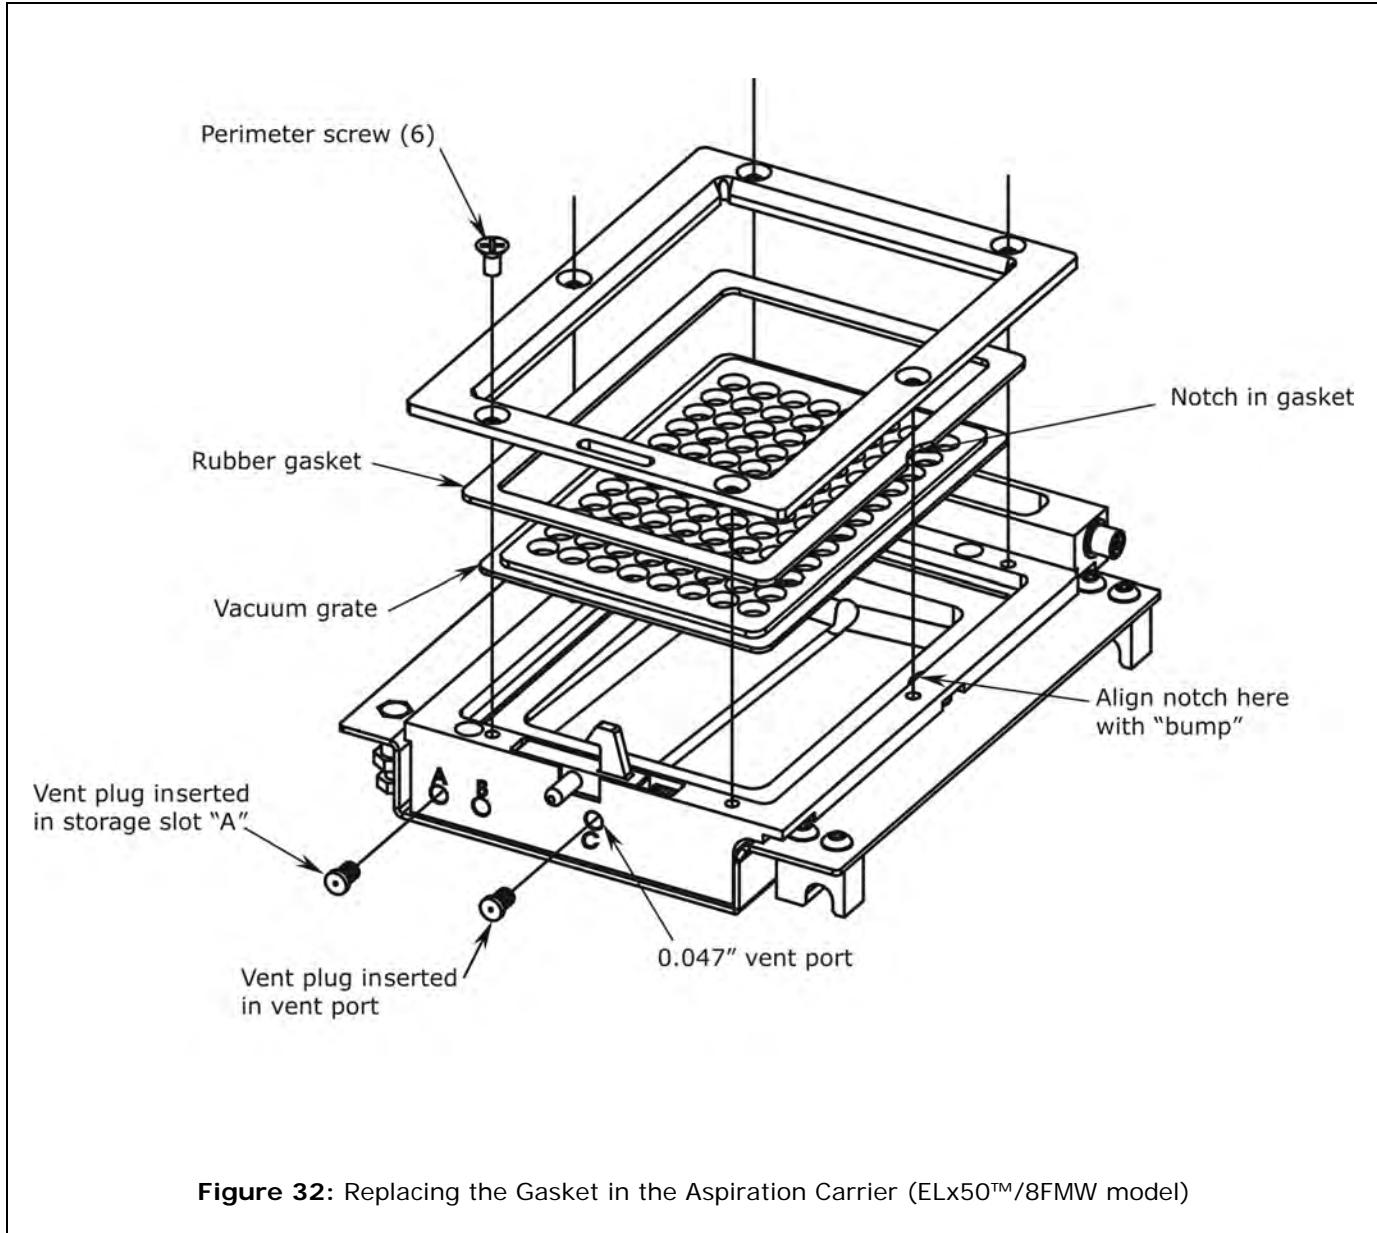

Figure 32: Replacing the Gasket in the Aspiration Carrier (ELx50™/8FMW model)
7. Inspect the plate seal gasket and replace it if it is torn. The gasket is held in place with six screws around the perimeter of the top of the carrier. See **Figure 32** on the next page.
❖ **Note:** The gasket is not symmetrical and only goes in one way. When replacing the gasket, align the notch in the gasket with the small "bump" on the plate clamp, as shown in **Figure 32**.